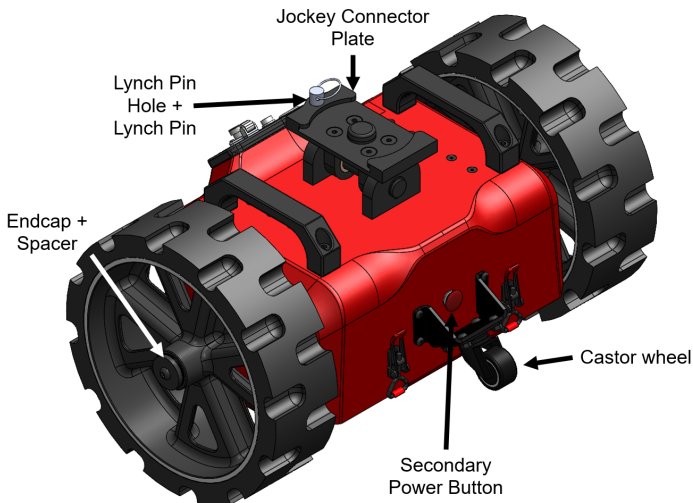

Figure 2 — Side view: Secondary Power Button, Jockey Connector Plate, Lynch Pin Hole and Castor wheel
1. Place the Jockey on top of the jockey connector plate (see Figure 2) so they sit flush.
3. If not turning on, ensure the secondary power button on the rear of the Safe-T-Mover is not depressed (see Figure 2).